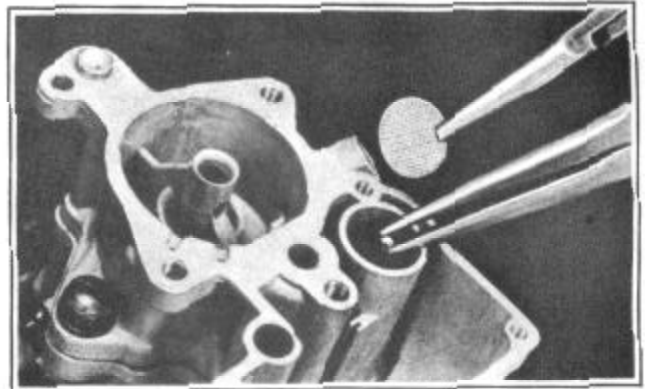

FIGURE 17
10. Remove the pump strainer, and pump intake check ball, Figure 17.